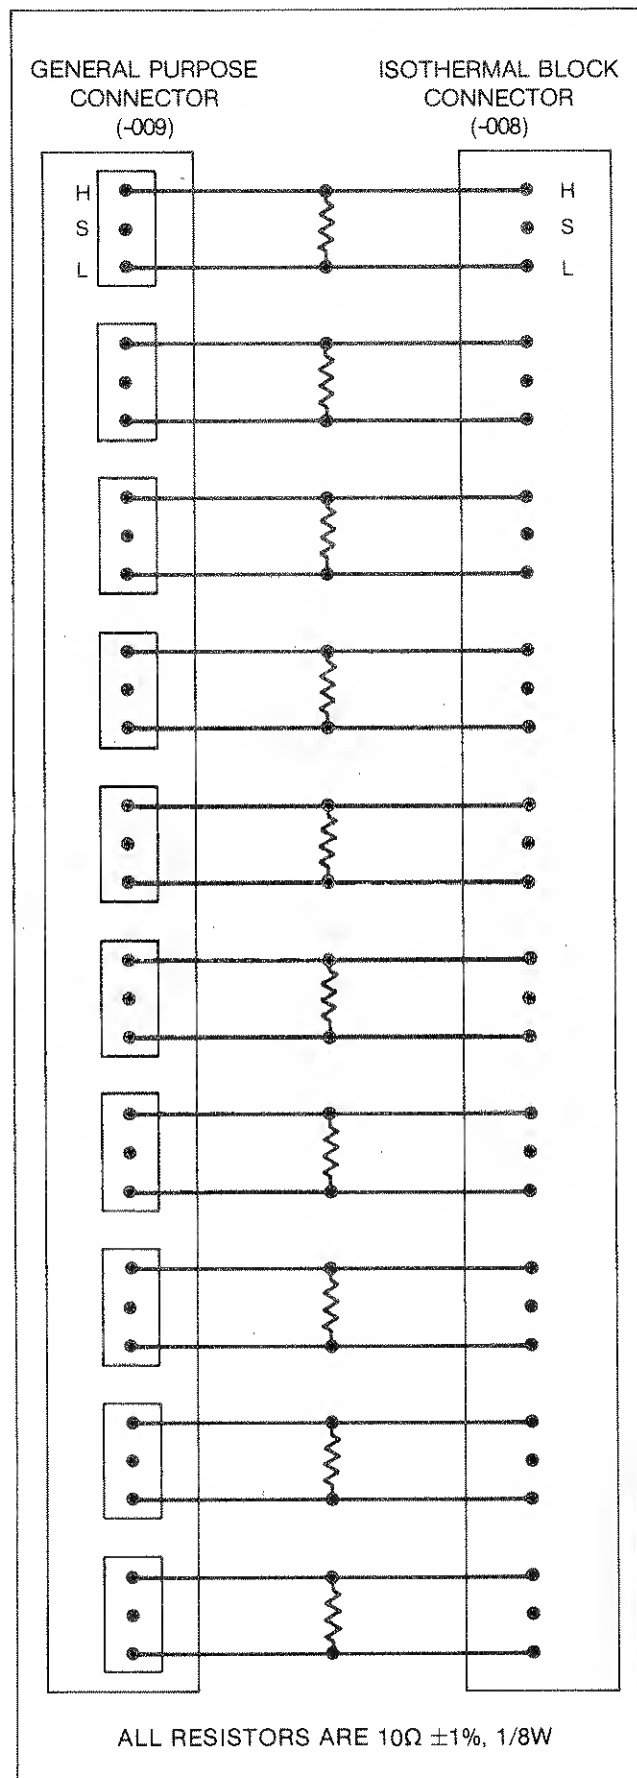

Figure 400-3. Scanner Test Cable
1. Fabricate a scanner test cable as shown in Figure 400-3 using the resistors specified in Table 400-2.